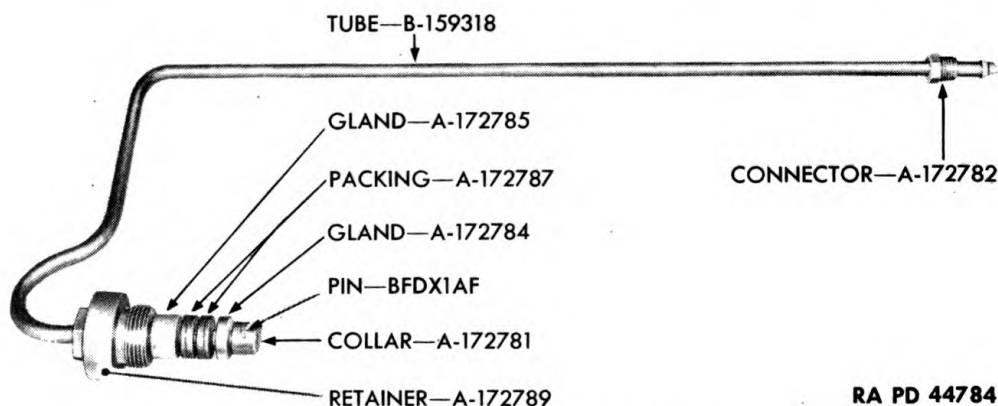

Figure 113—Replenisher Tube Assembly
(3) Unscrew and remove retainer A172789 from housing A172786 (fig. 102). Replenisher tube, retainer, glands, packing, and collar will come away with retainer (fig. 113).
a. Place the collar end of tube on a wood block. Tap pin BFDX1AF from collar A172781 (fig. 113).